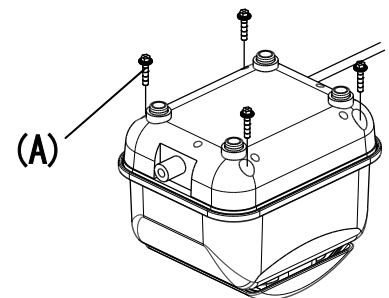

Fig 2-B
- Undo the screws (B) and remove the holder cover. (Ref: Fig 2-C)